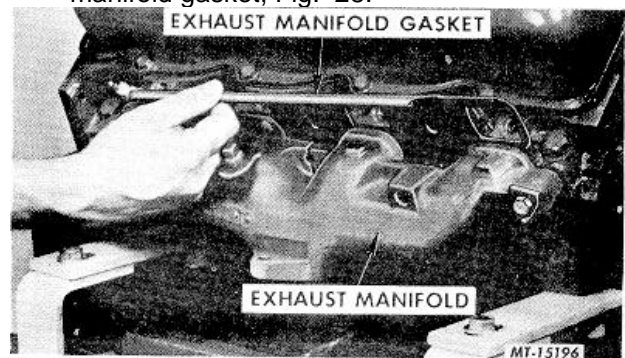

Fig. 28 Exhaust Manifold Gasket Removal
33. Loosen the two end bolts securing the manifold and remove the center bolt and manifold gasket, Fig. 28.